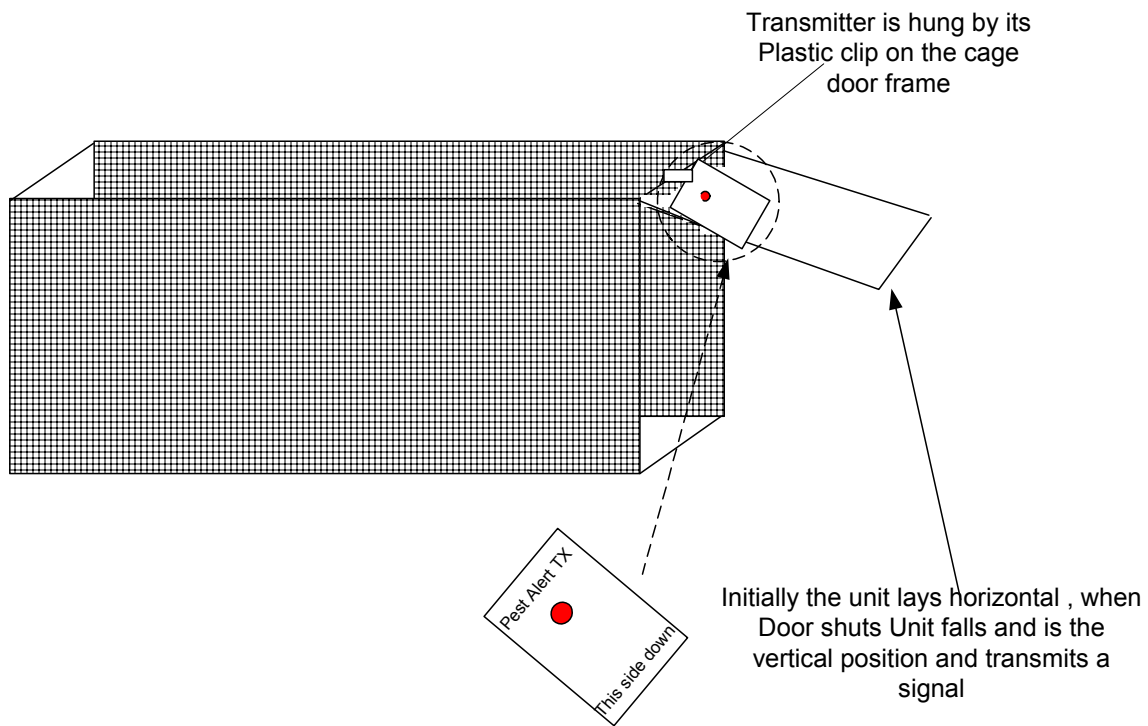

Figure 2
1. Using the plastic clip on top of the Transmitter, clip the transmitter to the cage Live trap door frame (see fig 2)